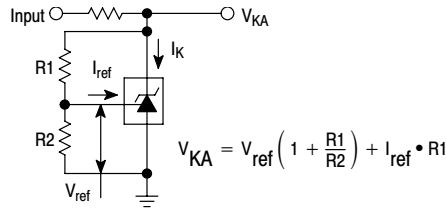

Figure 2. Test Circuit for $V_{KA} > V_{ref}$
| Ratio of Change in Reference Input Voltage to Change in Cathode to Anode Voltage I _K = 10 mA (Figure 2), ΔV _{KA} = 10 V to V _{ref} ΔV _{KA} = 36 V to 10 V | $\frac{\Delta V_{ref}}{\Delta V_{KA}}$ | – – | –1.4 –1.0 | –2.7 –2.0 | – – | –1.4 –1.0 | –2.7 –2.0 | mV/V |
| Reference Input Current (Figure 2) I _K = 10 mA, R1 = 10 k, R2 = ∞ T _A = 25°C T _A = T _{low} to T _{high} (Note 1) | I _{ref} | – – | 1.8 – | 4.0 6.5 | – – | 1.8 – | 4.0 5.2 | μA |
| Reference Input Current Deviation Over Temperature Range (Figure 2, Note 1, 4) I _K = 10 mA, R1 = 10 k, R2 = ∞ | ΔI _{ref} | – | 0.8 | 2.5 | – | 0.4 | 1.2 | μA |
3. The dynamic impedance Z_{KA} is defined as: $|Z_{KA}| = \frac{\Delta V_{KA}}{\Delta I_K}$. When the device is programmed with two external resistors, R1 and R2, (refer to Figure 2) the total dynamic impedance of the circuit is defined as: $|Z_{KA}'| \approx |Z_{KA}| \left(1 + \frac{R1}{R2} \right)$
| Ratio of Change in Reference Input Voltage to Change in Cathode to Anode Voltage I _K = 10 mA (Figure 2), ΔV _{KA} = 10 V to V _{ref} ΔV _{KA} = 36 V to 10 V | $\frac{\Delta V_{ref}}{\Delta V_{KA}}$ | – – | –1.4 –1.0 | –2.7 –2.0 | – – | –1.4 –1.0 | –2.7 –2.0 | – – | –1.4 –1.0 | –2.7 –2.0 | mV/V |
| Reference Input Current (Figure 2) I _K = 10 mA, R1 = 10 k, R2 = ∞ T _A = 25°C T _A = T _{low} to T _{high} (Note 4) | I _{ref} | – – | 1.8 – | 4.0 6.5 | – – | 1.8 – | 4.0 5.2 | – – | 1.1 – | 2.0 4.0 | μA |
| Reference Input Current Deviation Over Temperature Range (Figure 2, Note 4) I _K = 10 mA, R1 = 10 k, R2 = ∞ | ΔI _{ref} | – | 0.8 | 2.5 | – | 0.4 | 1.2 | – | 0.8 | 2.5 | μA |
6. The dynamic impedance Z_{KA} is defined as $|Z_{KA}| = \frac{\Delta V_{KA}}{\Delta I_K}$ When the device is programmed with two external resistors, R1 and R2, (refer to Figure 2) the total dynamic impedance of the circuit is defined as: $|Z_{KA}'| \approx |Z_{KA}| \left(1 + \frac{R1}{R2} \right)$